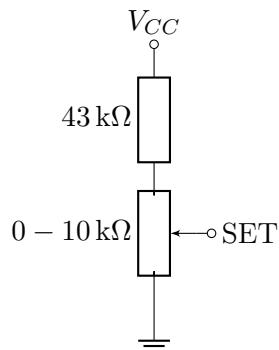

Figure 8.7.: Potentiometer for setting the output voltage setpoint
5. Connect your controller SET input to a potentiometer as shown in Figure 8.7. This will give you a wider range of reference voltages.